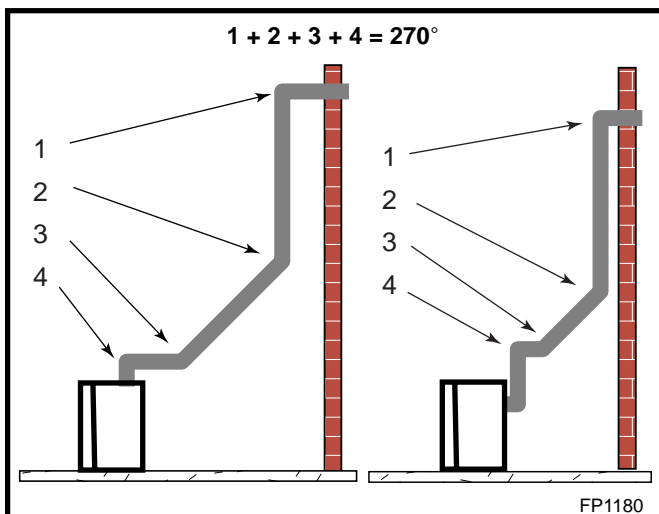

Fig. 26 Maximum elbow usage.
- The maximum number of 45° elbows permitted per side wall installation is two (2). These elbows can be installed in either the vertical or horizontal run.
- The maximum number of elbow degrees in a system is 270°. (Fig. 26)